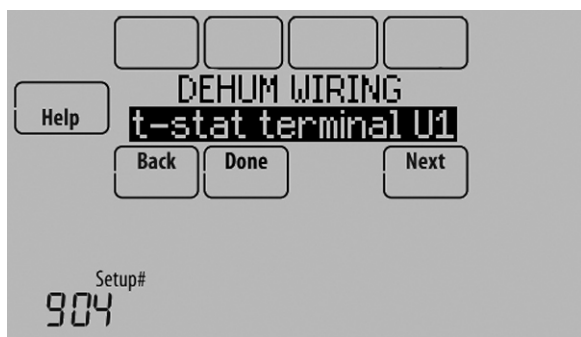

Fig. 191.
- Select the terminals wired to the A/C with Low Speed Fan. See Fig. 191.